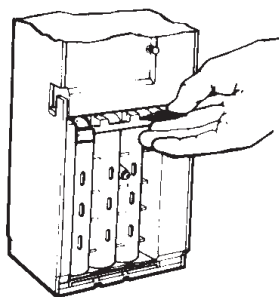

Figure 3-17:
- 1 Refer to Figure 3-17 as you fill the quarter coin tube up to the top sensor (Figure 3-18). (Coin denominations are printed on each tube.)